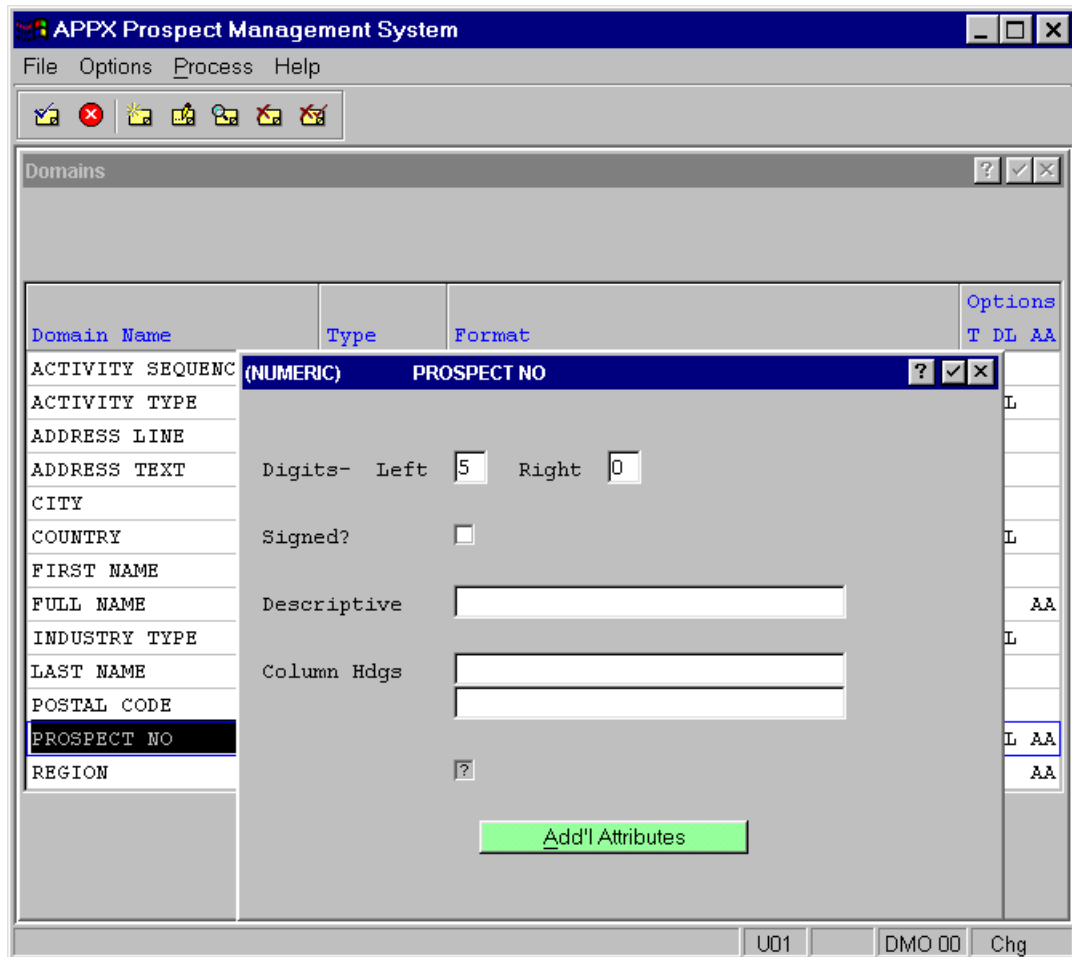

Figure E1.14 – Modified PROSPECT NO Domain Detail Screen
The specification screen for the **PROSPECT NO** domain is displayed as shown in *Figure E1.14* below.
- Position your cursor on the **Digits Left** field and the current value (4) is automatically highlighted.
- Change the **4** to a **5** since you want to expand the field from 4 digits to 5 digits as shown in *Figure E1.14* above.